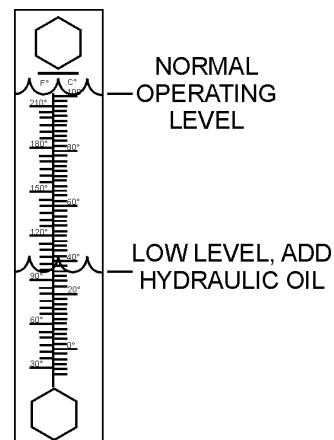

**Figure 35. Adding Fuel**
3. If fuel level is low, remove fuel filler cap (Figure 35) and fill with #2 clean fresh diesel fuel. Wipe up any spilled fuel immediately.